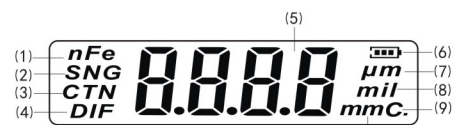

Figure 11
1. LCD full screen: (Figure 11)